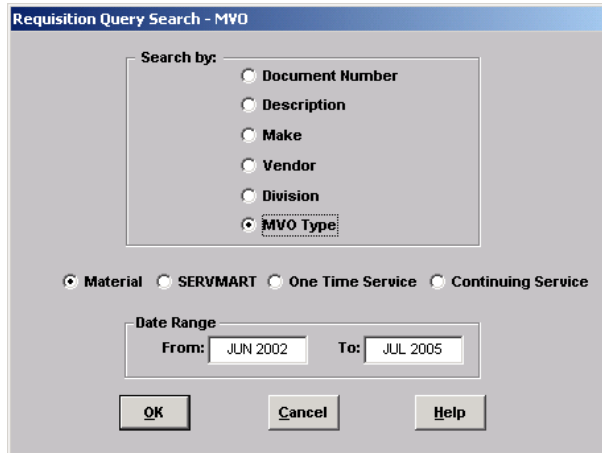

Figure 7.11
- 7.2.5 The **Requisition Query Search - MVO** window (Figure 7.11) allows the users to search for MVO material by Document Number, MVO description, Make, Vendor, Division, or MVO Type.